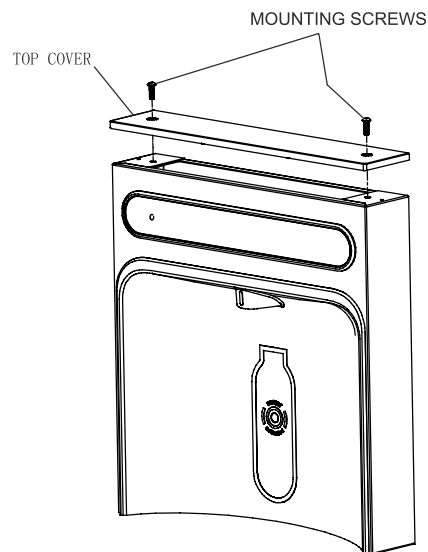
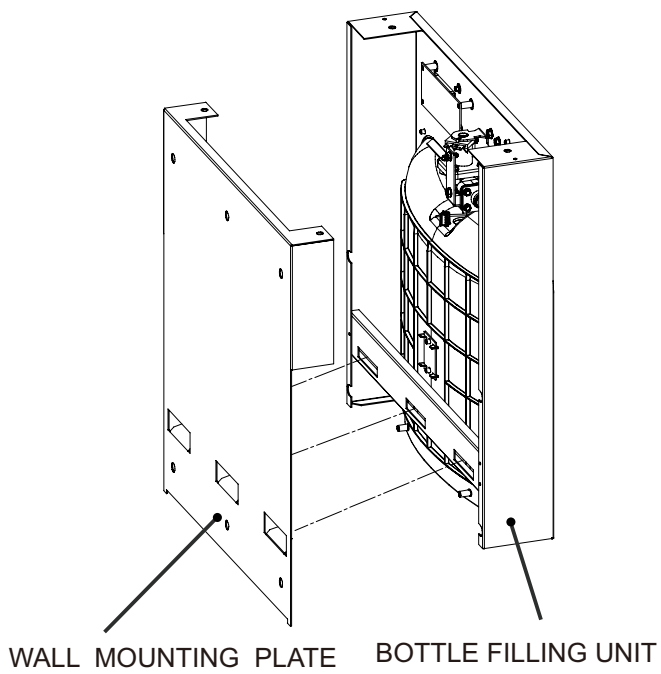

FIGURE 4
FIGURE 7
- 10) With the power cord, wire(s), and waterline through hole on top of water cooler place Bottle Filler on the three (3) angled tabs protruding from the wall mounting plate, installed on wall. Make sure round boss in gasket fits in hole of basin. (See Fig. 7).
- 11) Once Bottle Filler is installed on wall plate tabs, water line, wire(s) and power cord are installed properly, push top of Bottle Filler toward wall and line up top cover two (2) holes.
- 12) Reinstall Top Cover on Bottle Filler (See Fig. 4) with two mounting screws from step 1 above. Caution, do not over tighten screws.